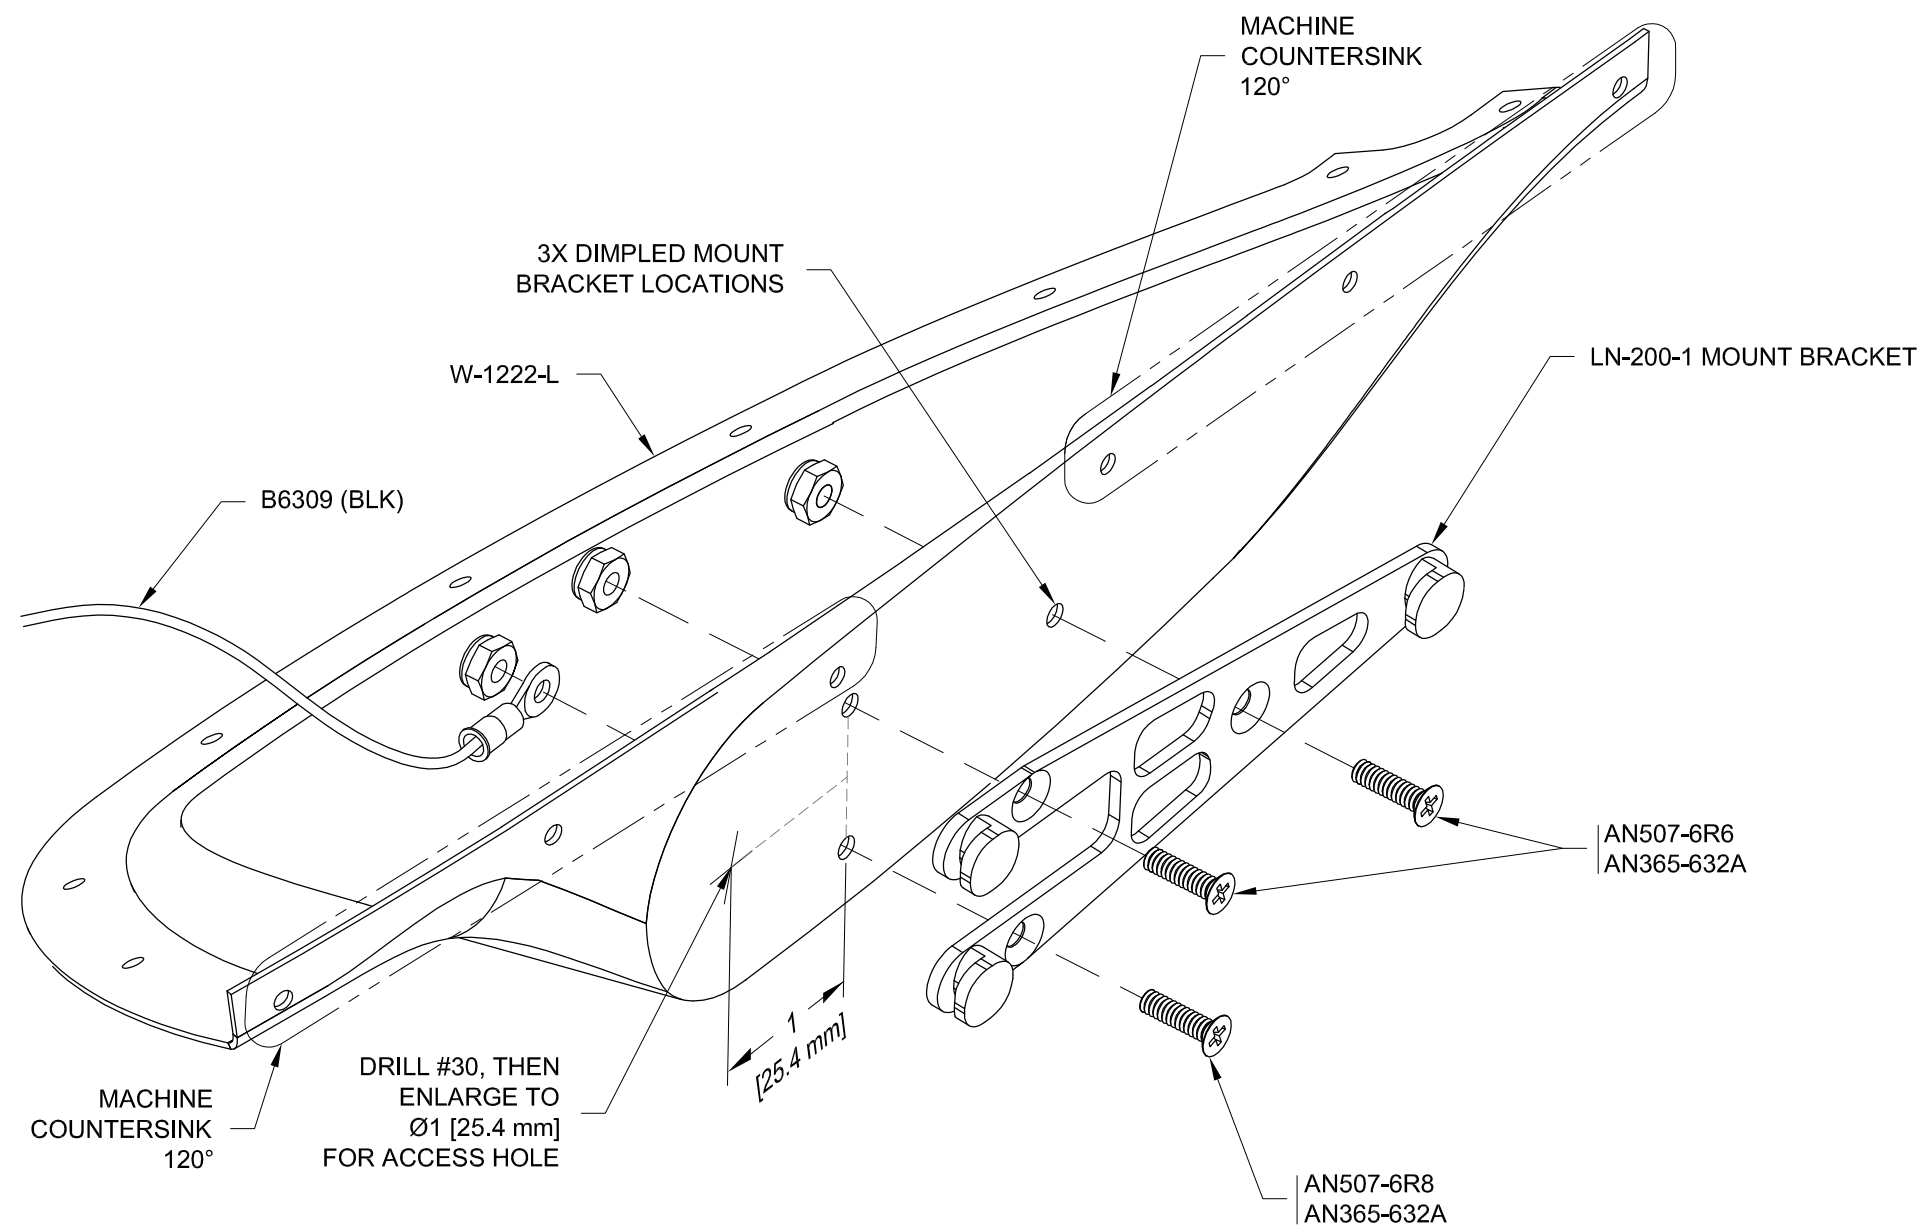

FIGURE 1: FINISHING THE EXTENSIONS
Step 4: Attach the LN-200-1 mount brackets to the W-1222-L & -R using the hardware shown in Figure 1. The bottom fastener should capture the ring terminal of the B6309 (BLK).
Add a layer of electrical tape onto the W-1204D-L & -R offset from the lower flange of the W-1222-L & -R by 1/32 in. [0.8 mm]. See the coarsely hatched area in Figure 1.
Cut a narrow strip of electrical tape then add it along the edge of the W-1222-L & -R. See the finely hatched area in Figure 1.